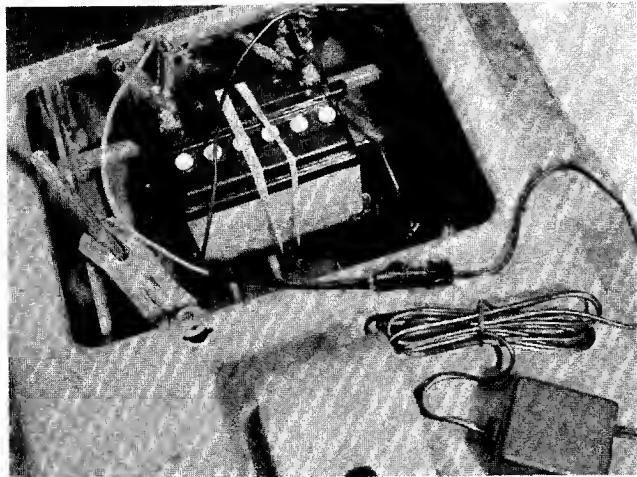

**FIGURE 18.**
11. Feed the end of the battery drain tube through the hole provided in the frame. See figure 18.